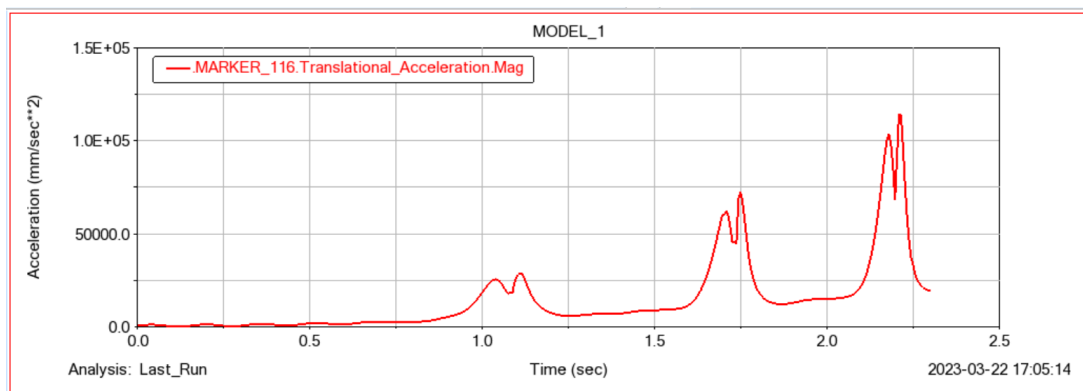

Fig. 11: Acceleration for sine force vs time
2. Acceleration plot is shown in fig 11